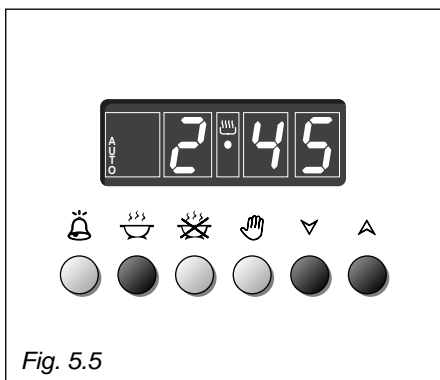

Fig. 5.5
1. Set the length of the cooking time by pushing the  button and the  button to advance, or  to go back if you have passed the desired time (fig. 5.5). The **AUTO** and the  symbol will be on.